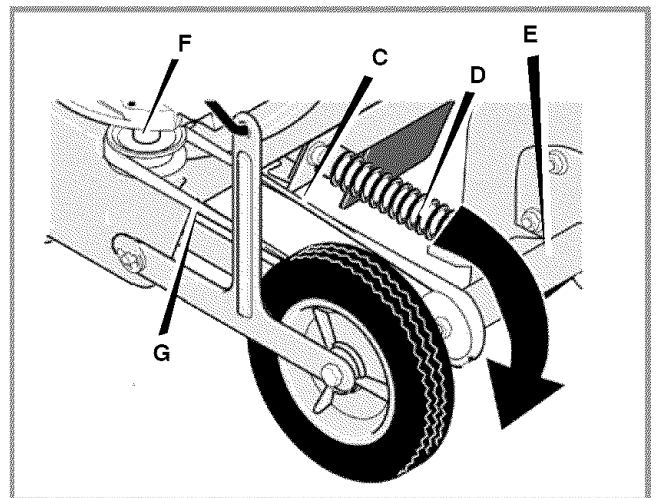
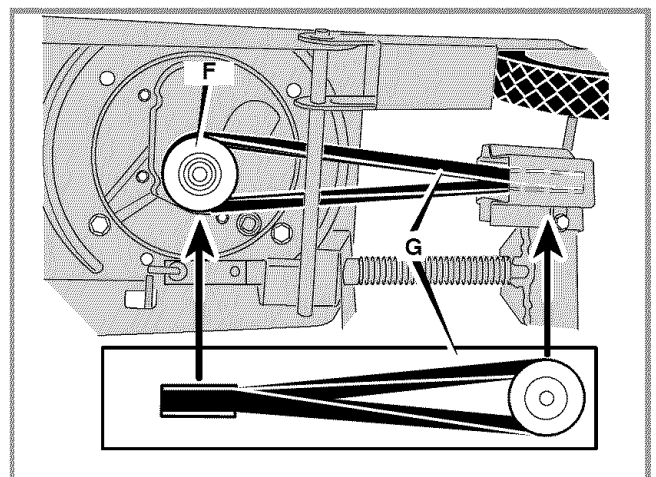

Figure 16: Belt Removal
Figure 17: Belt Twist
- 4 Carefully note the twist of the belt (G) around the engine pulley (F) (see Figure 16 and Figure 17).
- 5 Release tension on the belt by pushing the blade bearing housing (E) back toward the engine to compress the spring (D) (see Figure 16). Remove the old belt. Replace with an original equipment belt.
- 6 To install a new belt, reverse the above steps. Make sure to twist the new belt as shown in Figure 17.